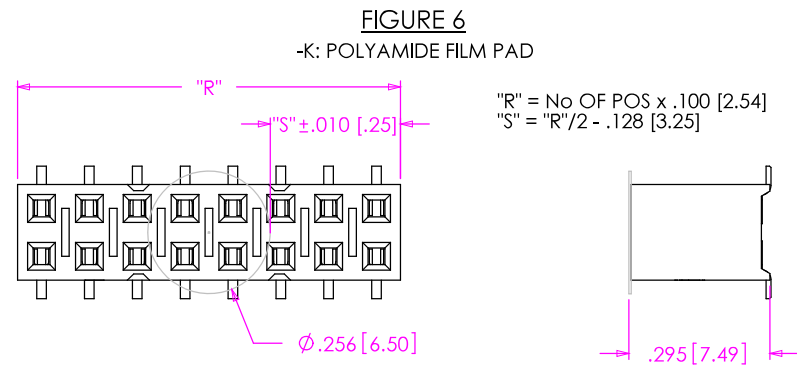

FIGURE 6
- K: POLYAMIDE FILM PAD (SEE NOTE 5) (POS 5 TO 40 ONLY) (USE K-500-300, SEE FIG. 6, SHT 2)